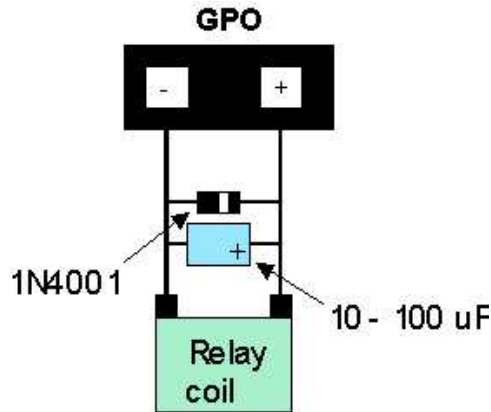

Figure 14: Clamping a Relay
**NOTE** The GPOs do not have any over current or over / under voltage protection so care must be taken when using them. For instance if the external device is a relay it must be fully clamped (using a diode and capacitor) to absorb any generated back electro-motive force (EMF). Please refer to Figure 14 on clamping a relay.